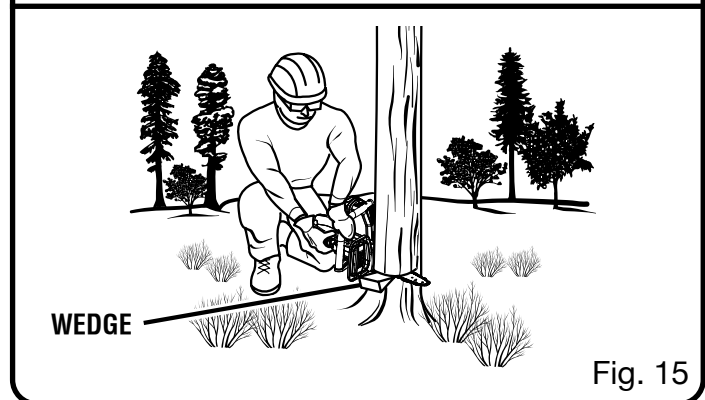

Fig. 15
Always use the proper cutting stance described in this section. Never kneel when using the chain saw except when felling a tree as shown in figure 15. Kneeling could result in loss of stability and control of the saw resulting in serious personal injury.
- On large diameter trees, stop the back cut before it is deep enough for the tree to either fall or settle back on the stump. Then insert soft wooden or plastic wedges into the cut so they do not touch the chain. The wedges can be driven in, little by little, to help jack the tree over. See *Figure 15*.